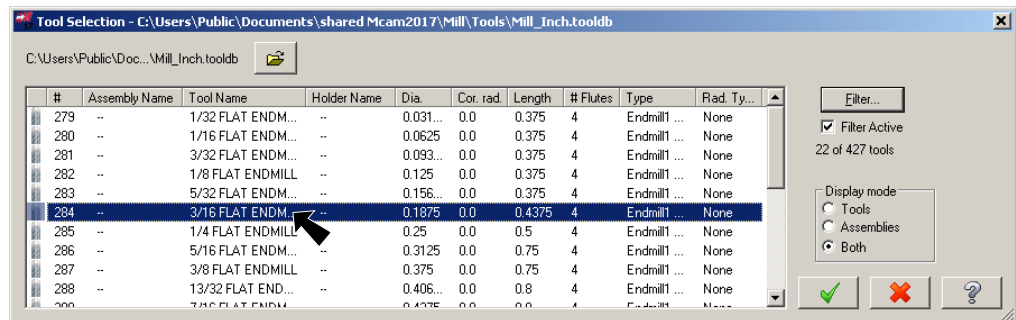

Fig. 41
Step 14. Click **284 3/16 FLAT ENDMILL** and click OK **Fig. 41**.